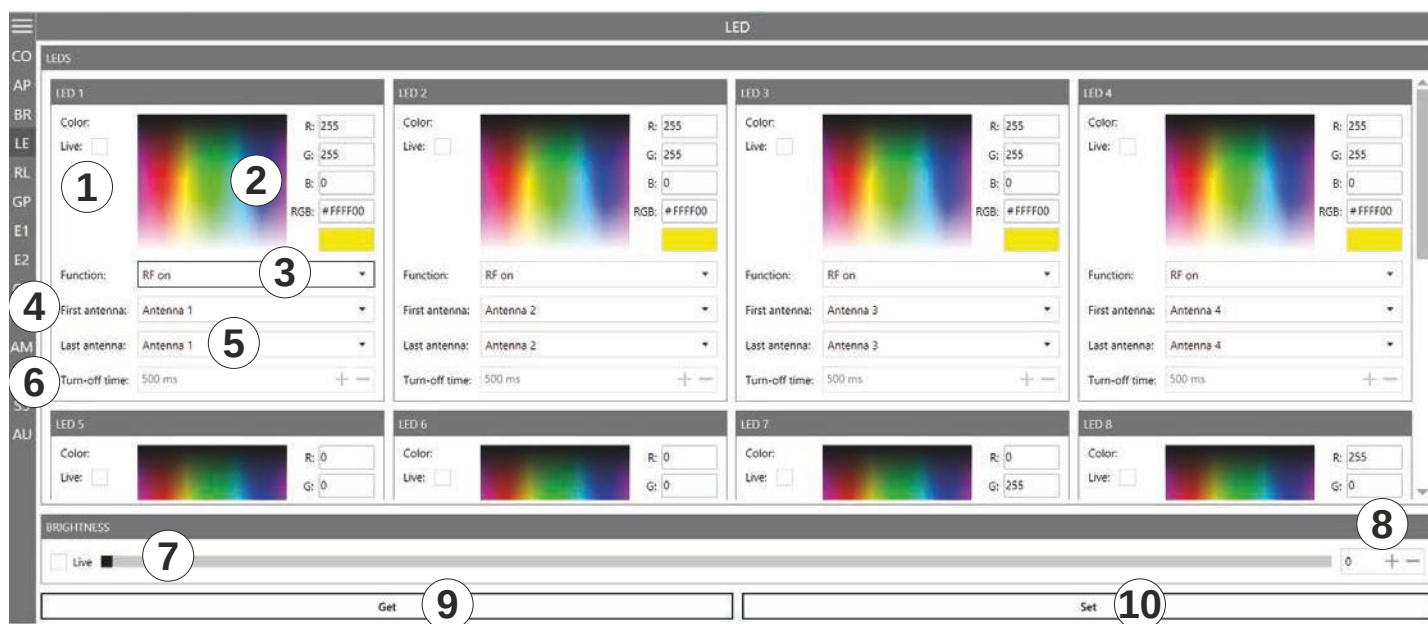

Fig. 41: LED
②		shows RGB values
③	Function	selects between the functions described in Selecting Functions , p. 79
④	First antenna	the first antenna for the selected function
⑤	Last antenna	the last antenna for the selected function
⑥	Turn-off time	sets the time for how long LED is on for the selected function
⑦	Brightness (live)	changes the LED brightness for all active LEDs (between 0 (auto brightness determined by the integrated light sensor) and 100) ► Move the brightness position along the bar to change the brightness of the LED. ⇒ The number at ⑧ changes.
⑧		changes the LED brightness (between 0 and 100) ► Click + or – to change the brightness of the LED.
⑨	Get	shows the current settings for all LEDs
⑩	Set	sets the new settings for all LEDs for which the settings have been altered
► Click on the arrow (③ in Fig. 41, p. 78) to select between the following functions: